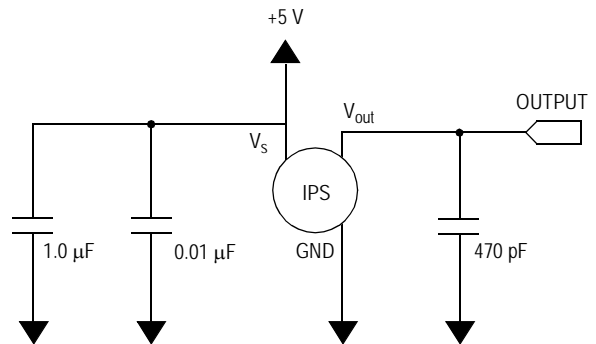

Figure 3. Recommended Power Supply Decoupling and Output Filtering
**Table 2. Operating Characteristics** ( $V_S = 5.0$  Vdc,  $T_A = 25^\circ\text{C}$  unless otherwise noted, P1 > P2. Decoupling circuit shown in Figure 3 required to meet specification.)
Figure 3 shows the recommended decoupling circuit for interfacing the integrated sensor to the A/D input of a microprocessor or microcontroller. Proper decoupling of the power supply is recommended.
Figure 4 shows the sensor output signal relative to pressure input. Typical, minimum, and maximum output curves are shown for operation over a temperature range of 0° to 85°C using the decoupling circuit shown in Figure 3. The output will saturate outside of the specified pressure range.